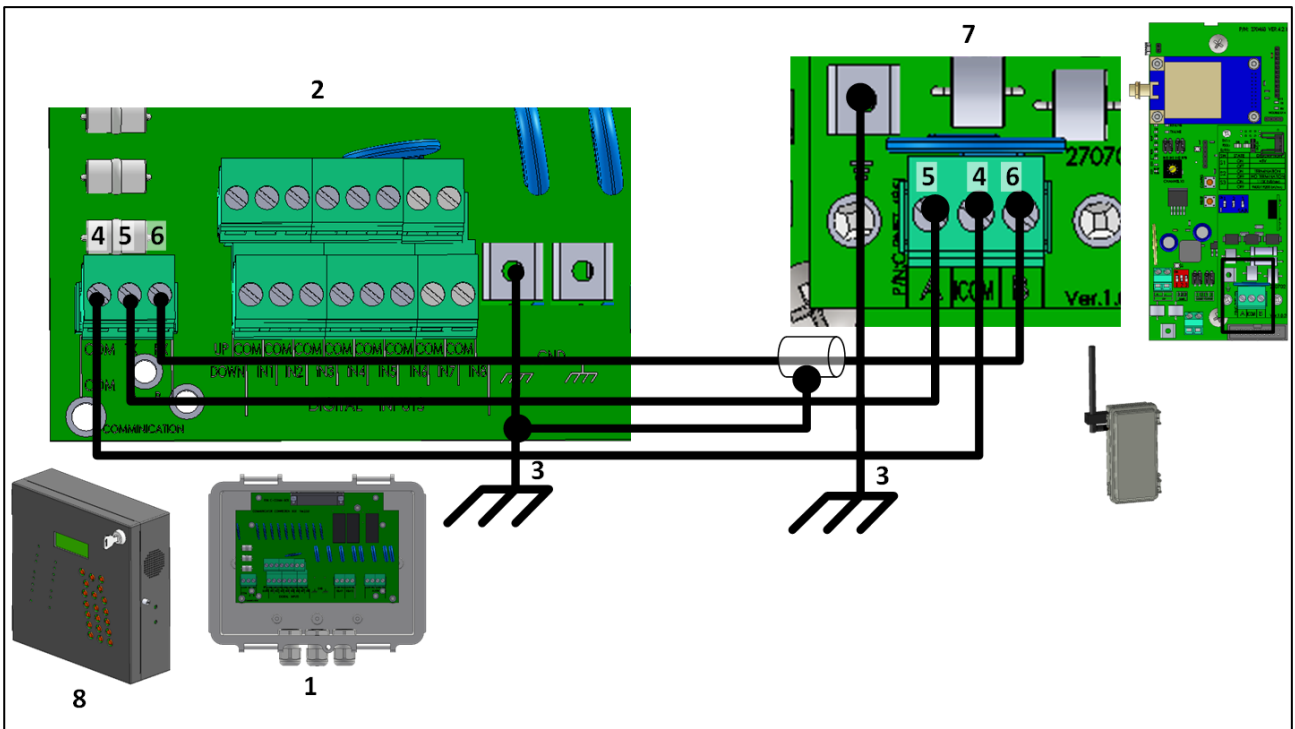

Figure 26: Wiring a Communicator external box to a RLINK ONE-485
- Figure 26: Wiring a Communicator external box to a RLINK ONE-485
Figure 26 key